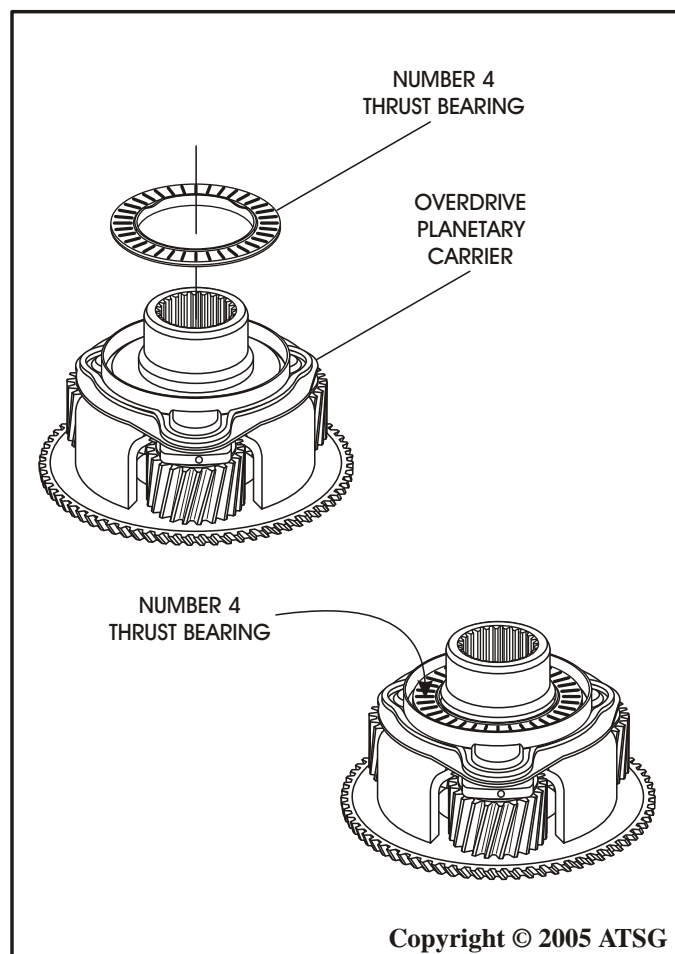

Figure 100
12. Install the number 4 thrust bearing onto the overdrive carrier, as shown in Figure 100, and retain with Trans-Jel®.